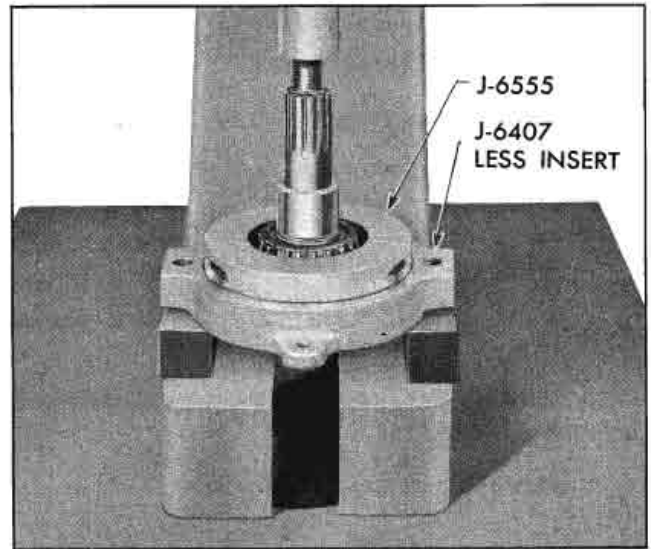

Fig. 4-41 Removing Rear Bearing with J-6555 and Press Plate J-6407 Less Insert
25. To remove pinion rear bearing from pinion stem, place bearing remover J-6555 and press plate J-6407, less insert, between bearing and pinion gear (Fig. 4-41).